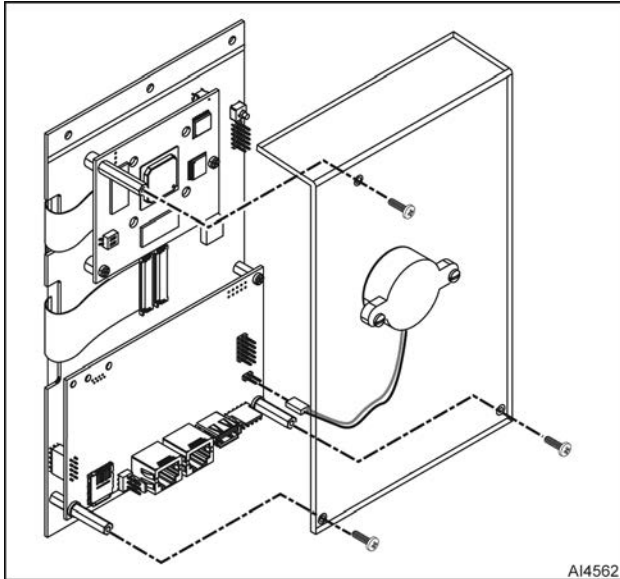

Fig. 9
4. Disconnect buzzer electrical cable connector (Fig. 9) from touch panel / display assembly.